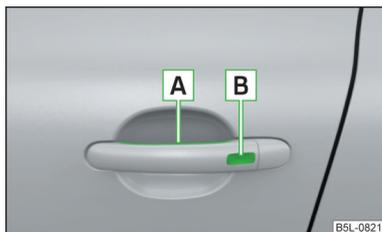

Fig. 35
Sensors in the handle of the front door » Fig. 35
► Grasp the door handle of the front door or cover the sensor **A** » Fig. 35 with the palm of your hand. » **!**
► Touch the sensor **B** » Fig. 35 with your fingers.